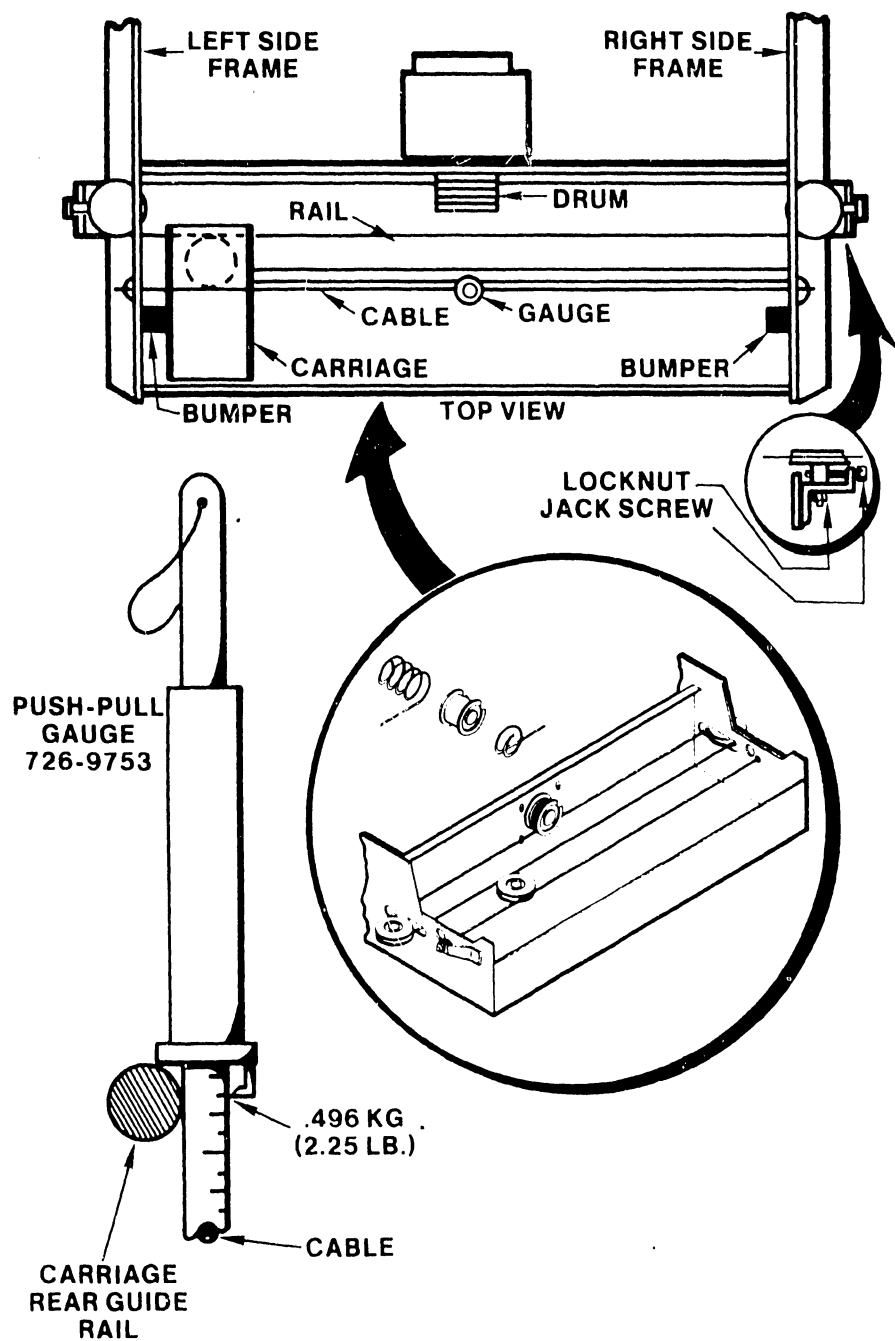

FIGURE 5-23 CABLE TENSION ADJUSTMENT
5.21 CARRIAGE CORD TENSION CHECK/ADJUSTMENT (Figure 5-23)